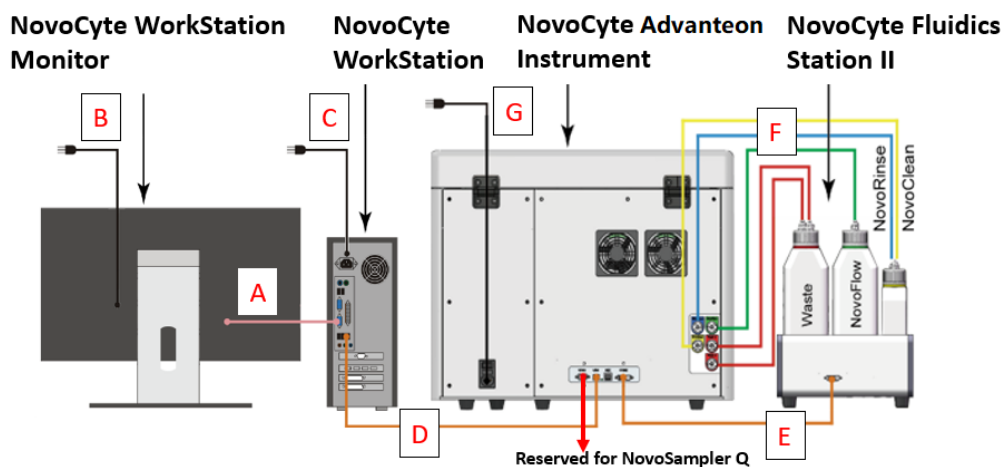

Figure 23. NovoCyte Advanteon Flow Cytometer System Connection
Figure 23 illustrates the typical connection of the NovoCyte Advanteon flow cytometer system. Please follow the instructions below to install each component.
- 1 Connect the workstation to the monitor using the included DisplayPort to Mini DisplayPort cable (Connection A in Figure 23). Connect the DisplayPort end of the cable to the back of the workstation. Connect the Mini DisplayPort end to the monitor.
- 3 Use the supplied USB cable to connect the NovoCyte Advanteon flow cytometer to the USB port of the NovoCyte Workstation (Connection D in Figure 23).
- 4 Connect the workstation and monitor to the power supply (Connections B and C in Figure 23). For more details, please refer to the instructions from the computer and monitor supplier.
NovoCyte Fluidics Station II is connected to the COM 2 port of the NovoCyte Advanteon instrument through the supplied DVI cable (Connection E in Figure 23).
Connect the NovoCyte Advanteon instrument to a power supply (100-240 VAC, 50-60Hz) by connecting one end of the supplied power cord to the power port on the instrument (Connection G in Figure 23), and connect the other end of the power cord to the power supply.